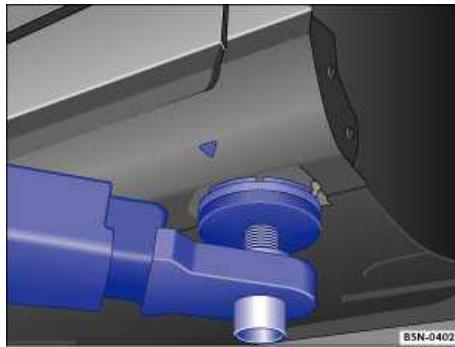
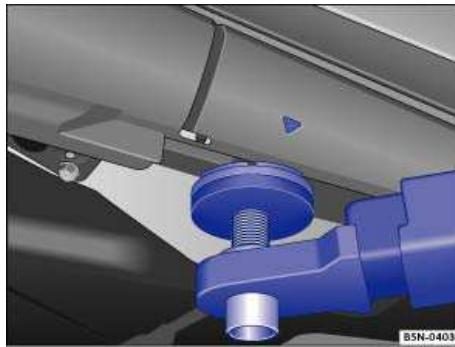

Fig. 179 Front lift point for workshop hoist or floor jack.
Fig. 180 Rear lift point for workshop hoist or floor jack.
The vehicle may only be raised at the lift points shown in illustrations ⇒ fig. 179 and ⇒ fig. 180. If the vehicle is lifted at different points, vehicle damage ⇒ ⓘ and serious injuries may occur ⇒ ⚠.
- Always lift your vehicle only at the designated lift points shown in the illustrations ⇒ **fig. 179** and ⇒ **fig. 180**. Not using the designated lift points can cause the vehicle to fall off the floor jack when heavy parts such as the engine or transmission are removed.